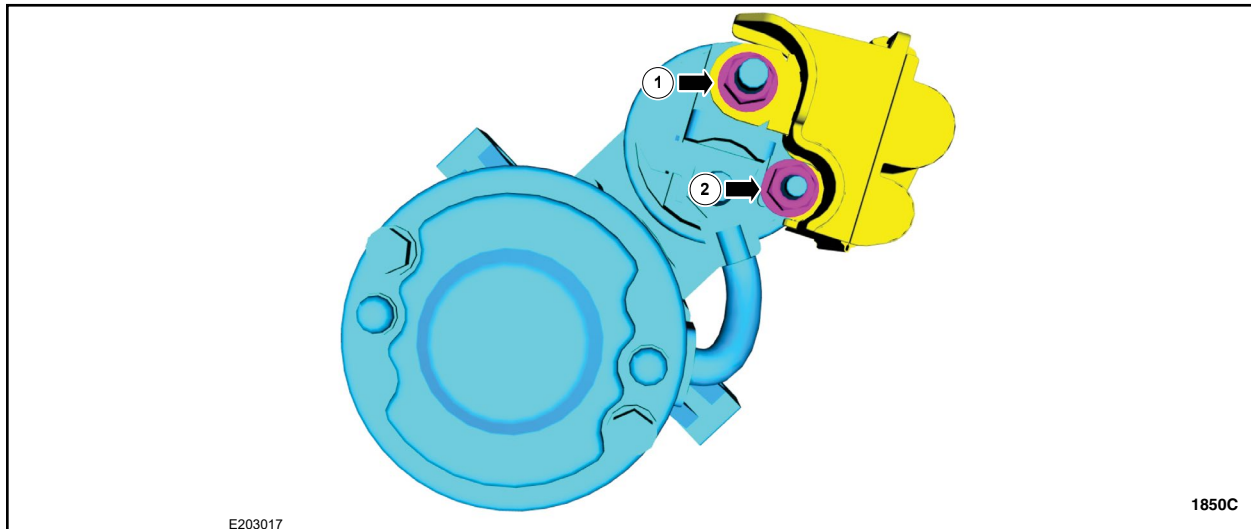

FIGURE 4
5. Inspect the starter motor battery positive cable nut and stud and the starter control wire nut and stud for cross threading or damage and torque both nuts. See Figure 4.